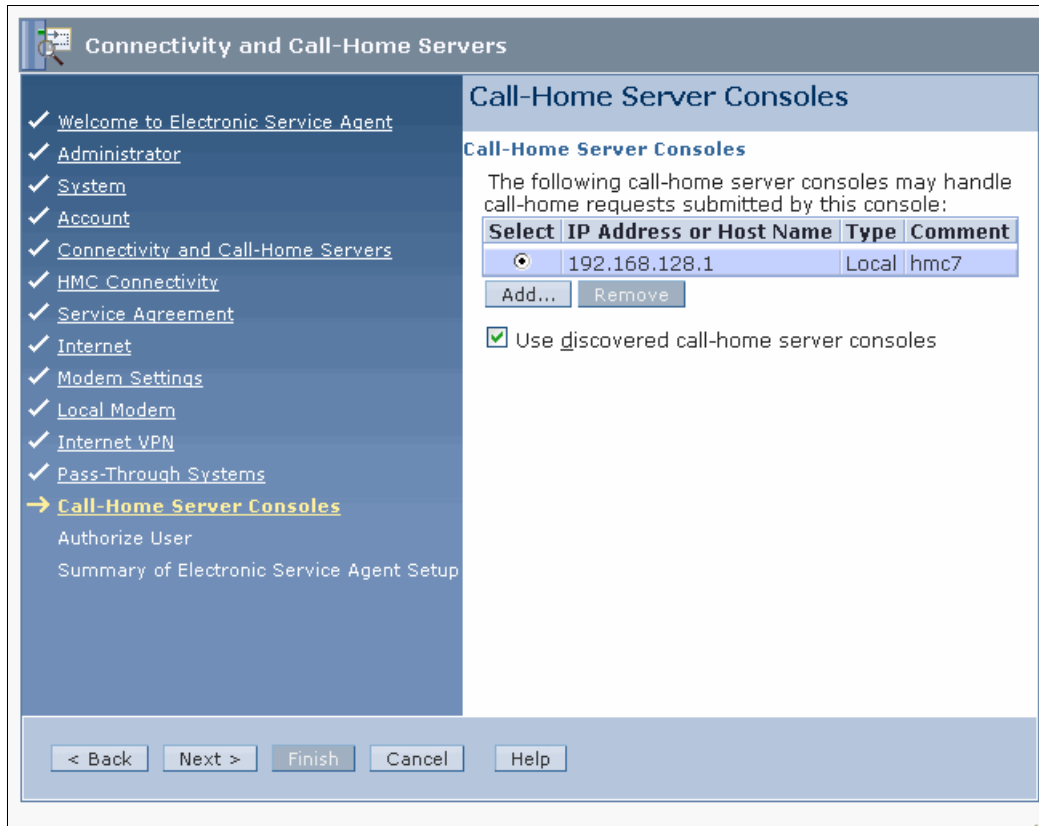

Figure 3-27 Configure Call Home Server Consoles
39. The Call Home Server Console is configured. See Figure 3-27. You can add or remove call home server consoles.